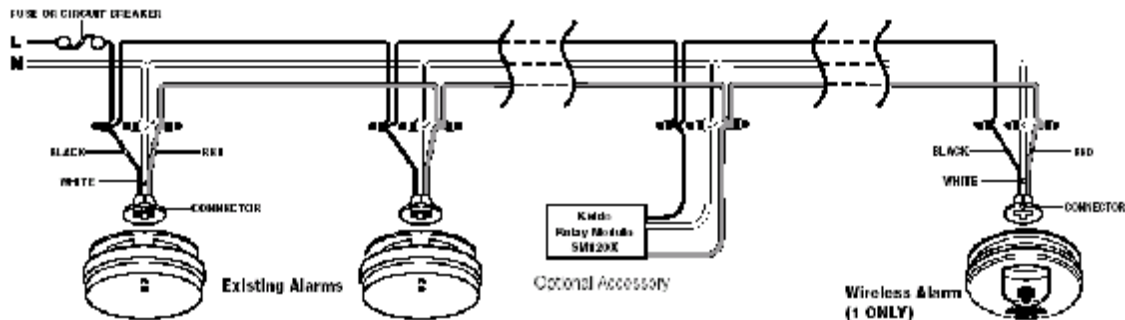

Figure 5
4. Plug the AC QUICK CONNECTOR into the back of the alarm (see Figure 5), making sure that the locks on the connector snap into place. Then push the excess wire back into the electrical box through the hole in the center of the mounting bracket.